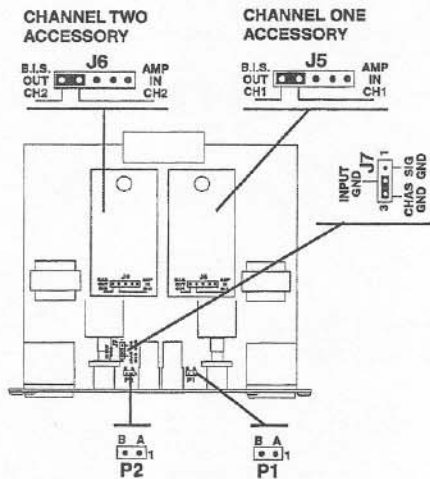
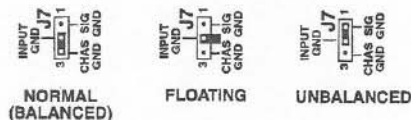

Figure 2 Internal jumpers for accessories, link connector and ground jumper.
Figure 3 Input grounding options.
Balanced input connections may be made to either the three-pin screw terminals or the XLR connectors. The screw terminal connections are internally wired directly to the XLR pins. XLR pin 1 corresponds to the screw terminal marked with a ground symbol. XLR pins 2 and 3 correspond to the terminals marked "+" and "-" respectively (refer to input board schematic on page 19). Figure 1 illustrates two types of connections to the input module using the detachable 3.5 millimeter plugs that are provided as part of the accessory kit. The first connection shown is for interfacing to a balanced signal source. The source generates two signals (+ and -) and provides a ground reference for shielding. The optimum ground reference for this configuration is the chassis ground of both the source device and the amplifier. This configuration requires that the internal ground jumper is set in either the "CHAS GND" position or the floating position (see figures 2 and 3). The second connection
shown in figure 1 is for an unbalanced signal source. Since the "-" of the unbalanced signal source is also the signal-ground, the "-" terminal of the amplifier must be referenced to this same point. The internal ground jumper must be in the "SIG GND" position for all unbalanced connections (see figures 2 and 3). The balanced and unbalanced connections shown in figure 1 can also apply to XLR connectors. If you are using XLR connectors and you intend to float the shield, be sure you are not inadvertently connecting the chassis ground to the cable shield through the fourth connection of the XLR connector. Some XLR connectors provide a fourth connection to the metal housing which will connect to the chassis ground of the amplifier when plugged in.
To help facilitate various grounding connections for pin 1 of the XLR connectors (and the input terminal ground), a three pin jumper is provided on the standard input module (figure 2). This jumper connects pin 1 of both XLR connectors to either the chassis ground (indicated by CHAS GND) or signal ground (indicated by SIG GND). The unit is shipped with pin 1 connected to the chassis (Figure 3). This position offers the best isolation from ground loops and noise if you use a uniformly shielded twisted pair cable that does not include a drain wire. A third option is to float the input ground by removing the jumper completely (Figure 3). This will break ground loops but may not offer good shielding unless the signal source provides a good ground for the cable shield. You should only use the signal ground position if you are using unbalanced signal sources.
Each channel of the standard input module provides the user with a flexible three-pin link connector. There are two primary functions that the link connector performs. (1) It provides a way to insert an external signal processor into the signal path by isolating the entire balanced input stage from the unbalanced input to the amplifier. (2) It provides buffered outputs for the optional accessories that plug into the standard input module. The pin marked 'A' of each link connector is hard-wired to the output of the optional accessory module (figure 6). The pin marked 'B' is unassigned. This pin ties to a header (P1 for channel 1, P2 for channel 2) inside the standard input module and is not connected to any circuit in the board (figure 2). The center pin of the link connector is hard-wired to the analog signal ground and is used as the ground reference for all link connections to external components (refer to input board schematic on page 19).
You can isolate the entire balanced input stage for each channel by removing the jumper J5/ch1 or J6/ch2. The output of this stage is marked on the pc board as 'B.I.S. OUT CH1' or 'B.I.S. OUT CH2' (figure 2). This signal can be brought out of the module via the 'B' pin of the Link connector by patching 'B.I.S. OUT CH1 or CH2' to the post header of P1 or P2 that is marked 'B' (figure 4). The accessory kit that is included with the amplifier contains several post-header terminals that can be used to build shorting jumper wires. The signal can be returned via the 'A' pin of the Link connector since it is hard wired to the unbalanced amplifier input. The ability to insert signal processors such as filters, equalizers and compressor/limiters allows the user to take advantage of the features of the balanced input stage (i.e. H-pad, transformer isolation and ground selection) which is not likely to be available on most signal processing equipment. Figure 5 shows how this feature can be used to insert an equalizer into the audio path for channel one using the internal connections shown in figure 4.